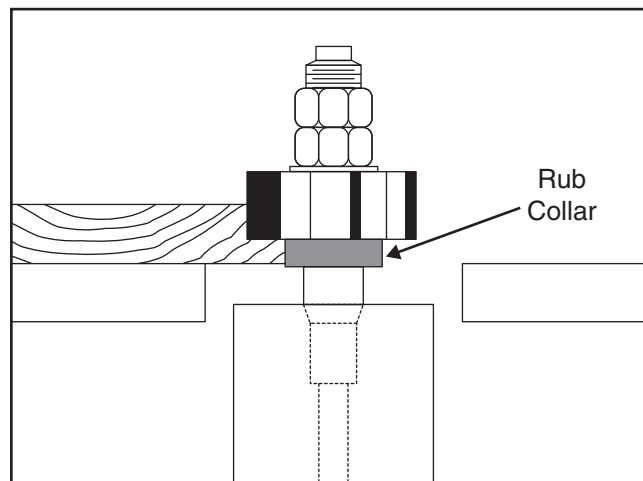

Figure 36. Cutting with the rub collar below the cutter.
1. **Rub collar below the cutter:** When the rub collar is placed below the cutter (see **Figure 36**), the progress of the cut can be observed. However, any unintentional movement may lift the workpiece into the cutter, damaging your work and increasing risk of injury to the operator. *We DO NOT recommend using the rub collar below the cutter.*